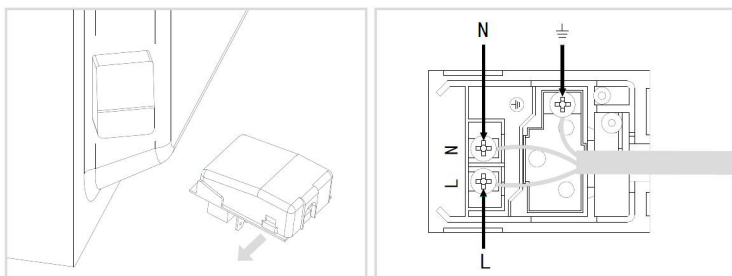

Fig.8
1. Open the terminal board by inserting a screwdriver into the side tabs of the cover. Use the screwdriver as a lever by pushing it down to open the cover (Fig.8).
2. Install the power supply cable by loosening the cable clamp screw and the three wire contact screws LN. Connect the wires to the corresponding terminals: the Blue wire to the terminal marked (N), the Brown wire to the terminal marked (L) and the Yellow/Green wire to the terminal marked (Fig.8).